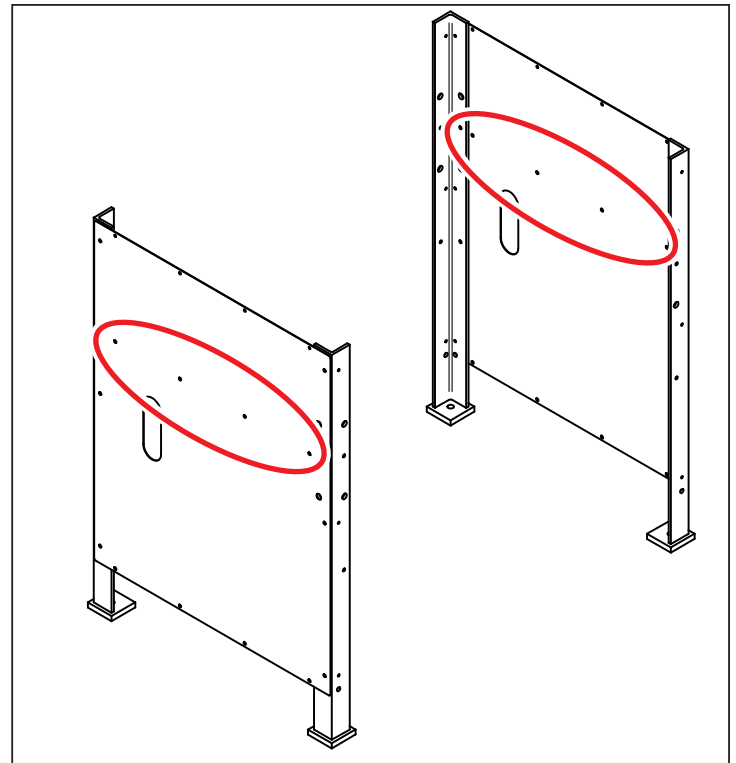

Figure 1
1. Using 12 10-32 x 3/8" Phillips Screws, attach four Legs to two Side Panels (see **Figure 1**).
NOTE: Middle Shelf holes should be oriented as shown in **Figure 1**.